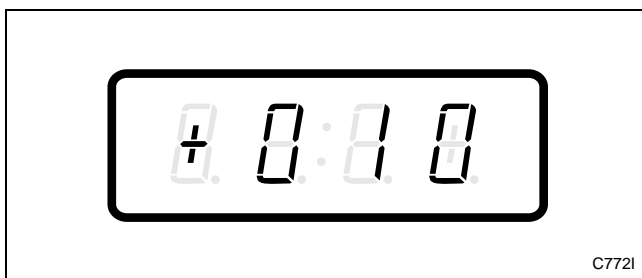

Figure 14
3. Press the DELICATES (+) or the COLD (-) keypad to scroll through the programmable options until “+010” appears in the VFD. Refer to *Figure 14*.